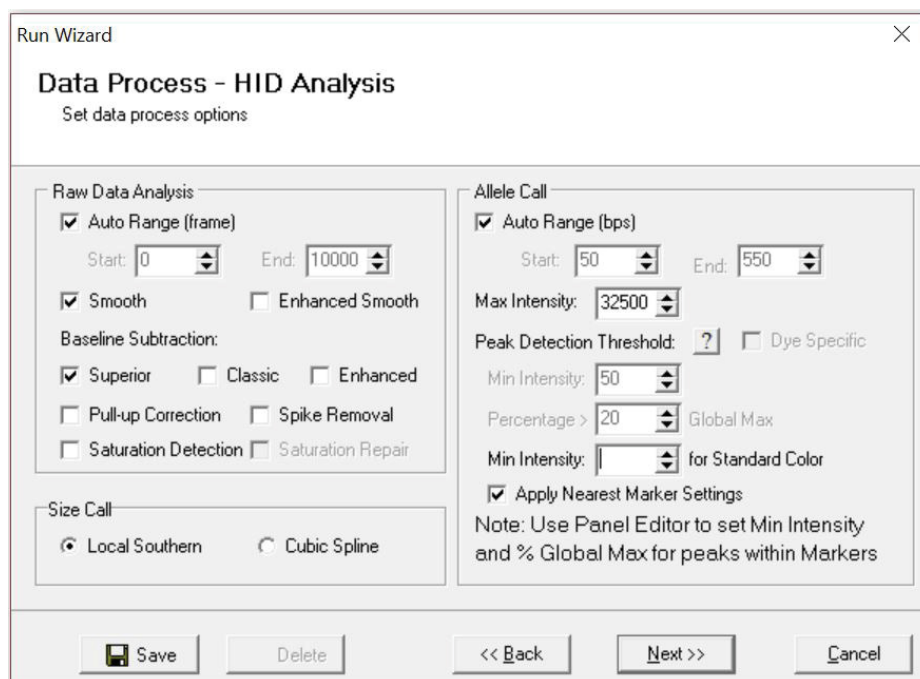

Figure 25. The 'Data Process' window for an analysis method.
9. The 'Data Process' window will appear (Figure 25). For the Raw Data Analysis, we recommend using Auto Range, Smooth, Superior Baseline Subtraction and Local Southern for the Size Call.